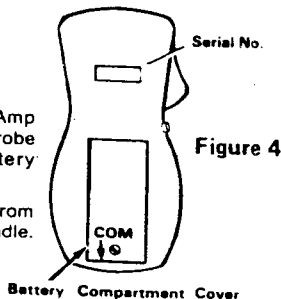

Figure 4
- 1) loosen screw located toward the bottom on the back of the instrument. (See Fig. 4)
- 1) Insert one insulated voltage test lead connector into the right hand (viewing instrument from front) voltage receptacle in the bottom of the instrument. Looking at the back of the instrument, this voltage receptacle is marked "COM". (See Fig. 4).